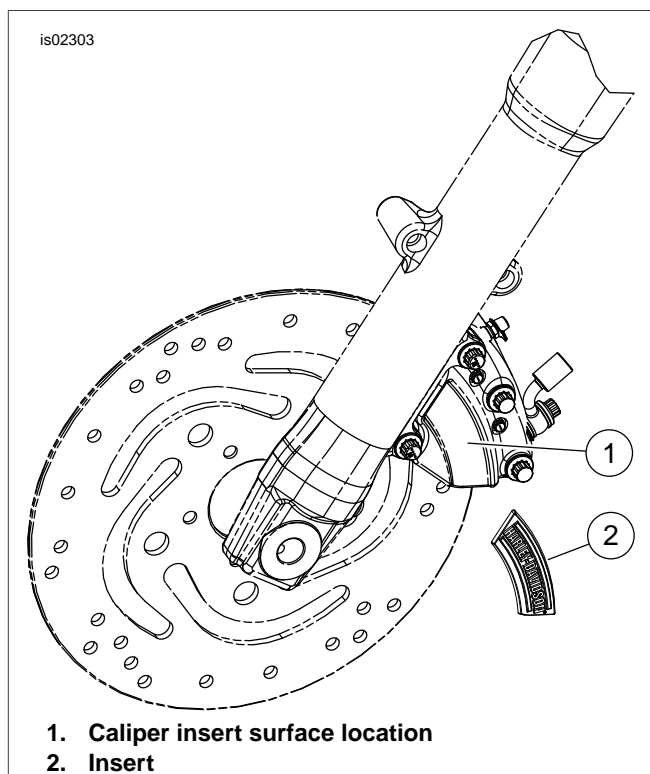

Figure 1. Insert Location
1. See Figure 1. Remove the protective film from the back of the insert (2).